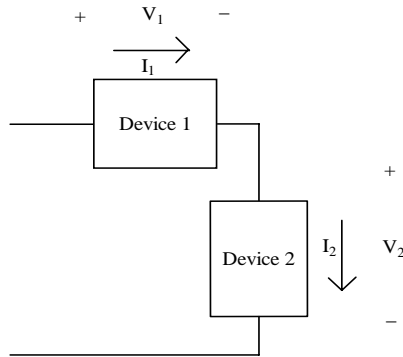
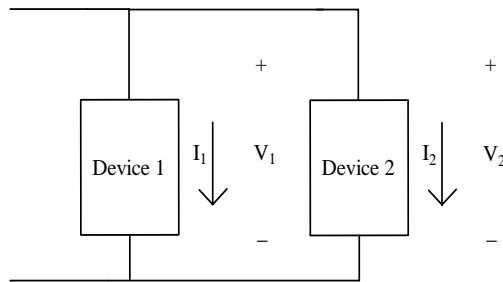

Figure 5
Figure 6
d. Series and Parallel connection (see Figure 5 and Figure 6 respectively):